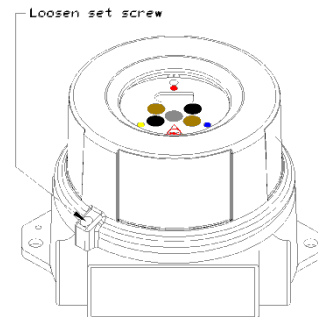

Figure 2-5
4. Loosen the set screw on the enclosure lid (see Figure 2-5).